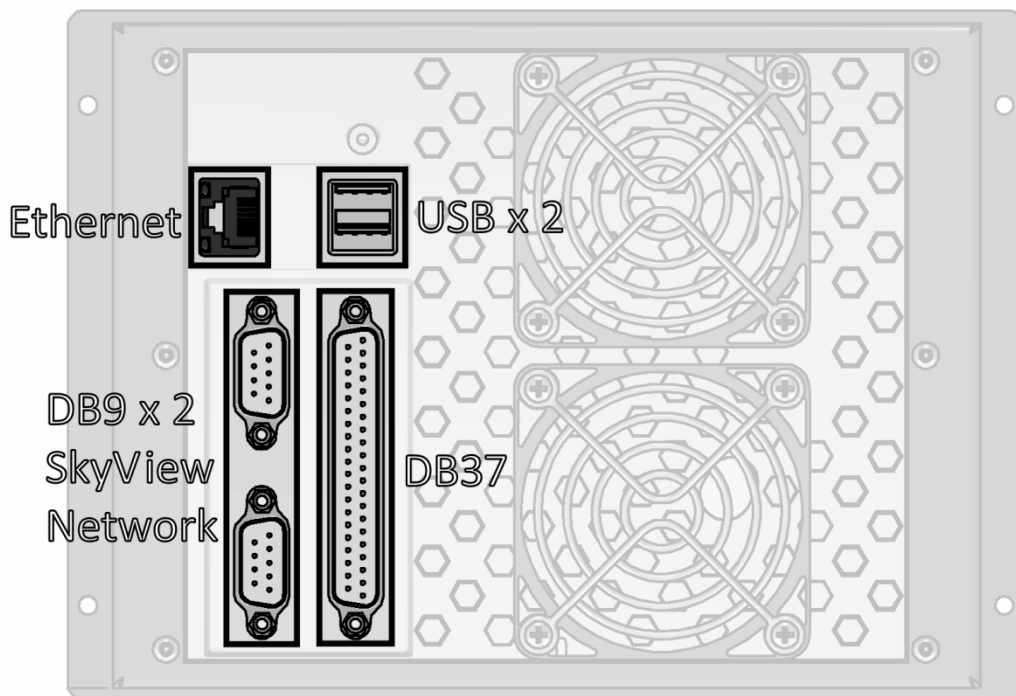

Figure 144: SkyView Display Connectors
SkyView displays have six (6) connectors on the back of the unit as illustrated in Figure 144:
- One (1) D37M for connection to the SkyView Display Harness (SV-HARNESS-D37).
- Two (2) D9M SkyView network connectors (SV-NET-xxxx).
- Two (2) Standard 4-pin USB 2.0 jacks for use with USB Series A plugs. Note that there is also a USB port on the SV-HARNESS-D37 for convenience.
- One (1) standard 8-pin RJ45 connector for use with twisted pair Category 5 Ethernet cable.